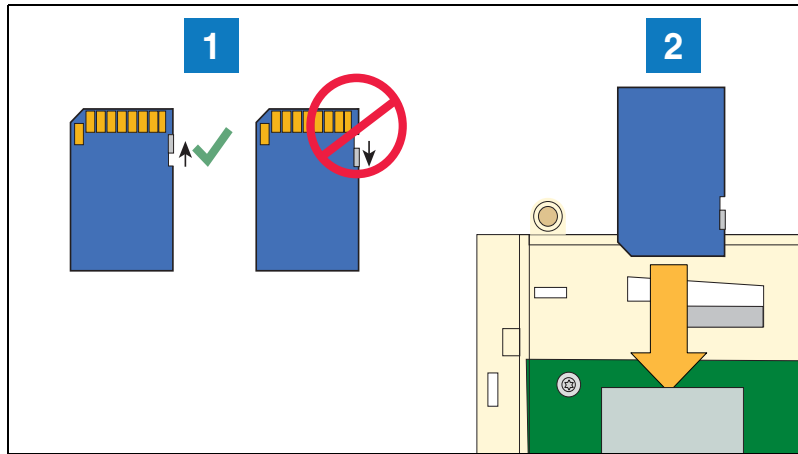

Figure 6. Inserting SD Card In Its CPU board Enclosure
2. When replacing the SD card, always check the read/write-protect switch on the side of the card is in the position shown in Figure 6. Insert the SD card into its enclosure with the contact side facing the CPU board and gently push the card into its enclosure until it clicks into the enclosure's latch.